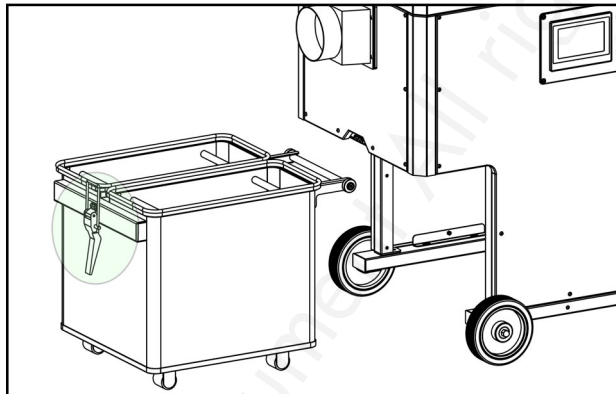

Figure 13
As shown in figure 13, release the handle and pull out the dust bin. After emptying the bin, push the bin back into the end of the cabinet and lock the handle.
6.1 Cleaning dust bin (figure 13)